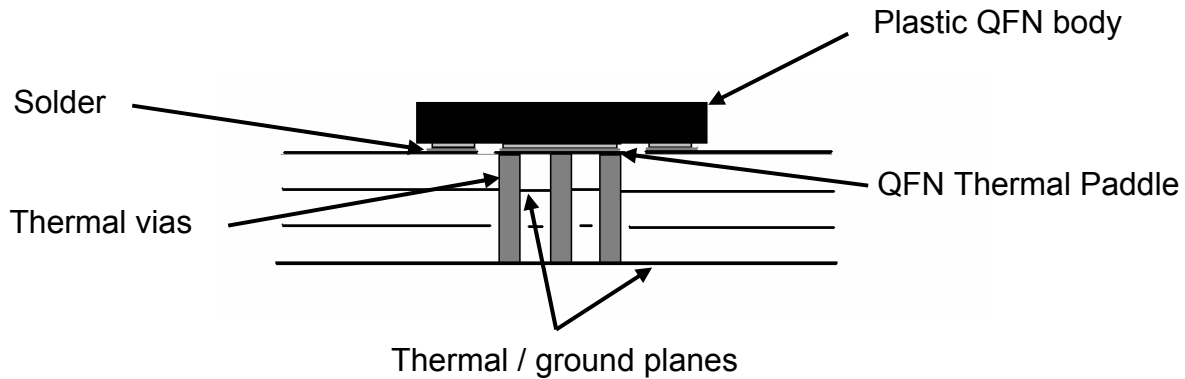

Figure 1 - QFN Side View
The QFN package with exposed paddle (EP) depends upon good thermal contact between the paddle and the PC board heatsink. The heatsink is integrated into the PC board as a top thermal pad and an array of thermal vias connecting to one or more ground planes, which act as heat spreaders. This is shown schematically in the side view of Figure 1.